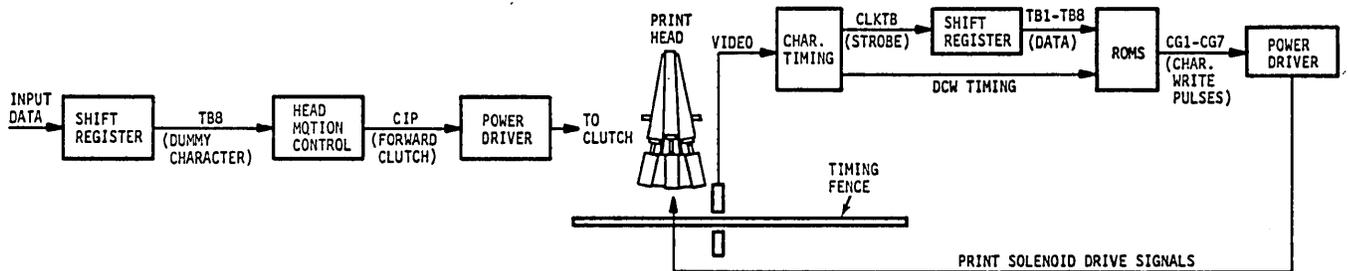

Figure 4-13. CHARACTER PRINTING BLOCK DIAGRAM
4.5 CHARACTER PRINTING (Figure 4-13)